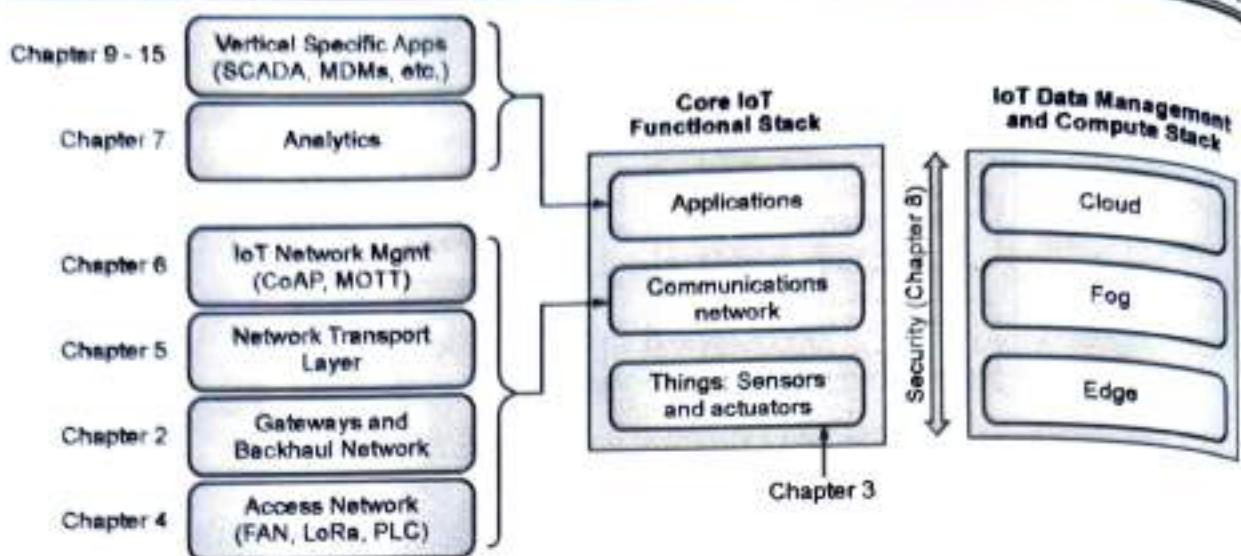

Fig. 2.4.2 : Detailed View of the simplified IoT Architecture
- The three data management layers shown in Fig. 2.4.2, are